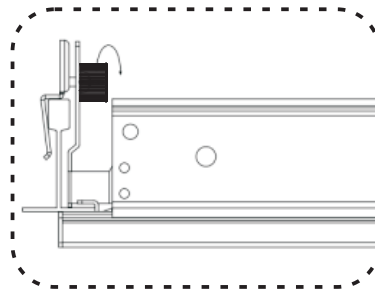
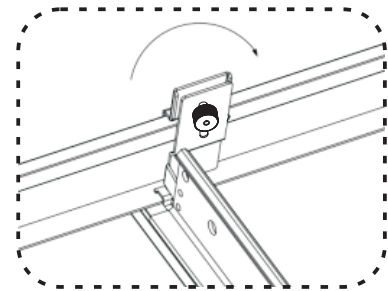
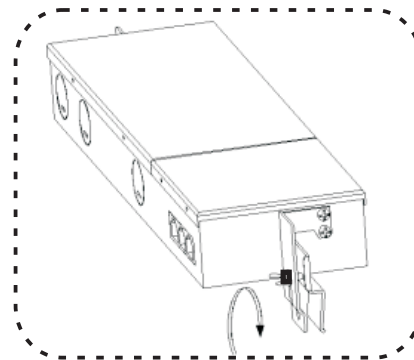
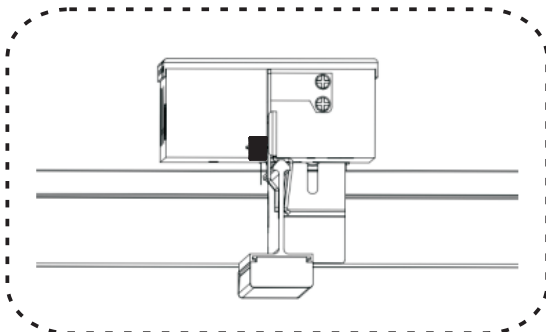

Figure2
Figure3
Figure4
Figure5
4. Install the linear light to ceiling grid and tighten the two terminal nuts. (Figure2 and Figure3)
5. Unlock the nuts from both end of Junction Box. (Figure4)
6. Secure the junction box to the linear light and tighten the two terminal nuts. (Figure5 and Figure6)
(figure 2,figure 3,figure 4,figure 5)